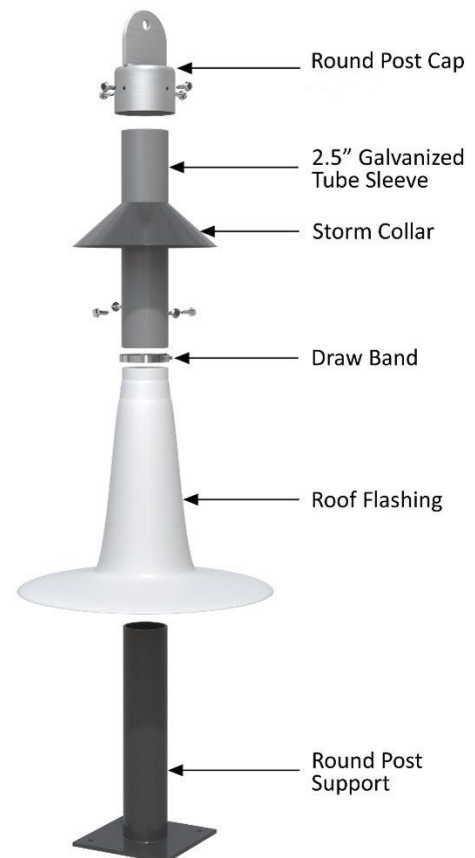

FIGURE 17
**ROUND POST SUPPORT:** The Round Post Support attachment is an option when the moment-resisting RotoLock™ is not required (see Figure 17). This attachment type generally introduces more torque into the roof structure, therefore is best suited for heavy-duty structural members that can resist moment loads (e.g. concrete, steel beams, large wood beams).